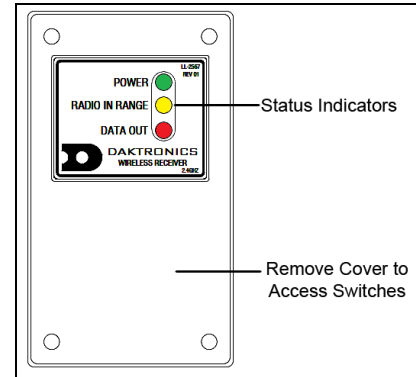

Figure 24: Radio Receiver w/ Cover
1. The radio receiver has a plastic cover with a window to view status indicators (**Figure 24**).